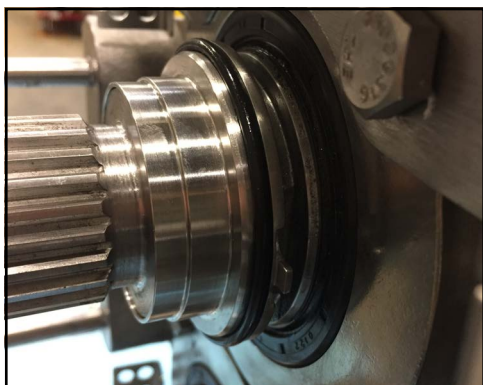

Figure 182 - O-ring installed
27. Figure 182 shows the rotary seal O-ring installed on the shaft.